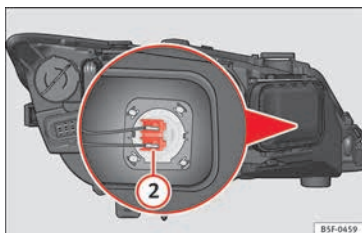

Fig. 109 Main beam headlight bulb.
- Slide connector » **Fig. 109** ② to the left or right and pull.